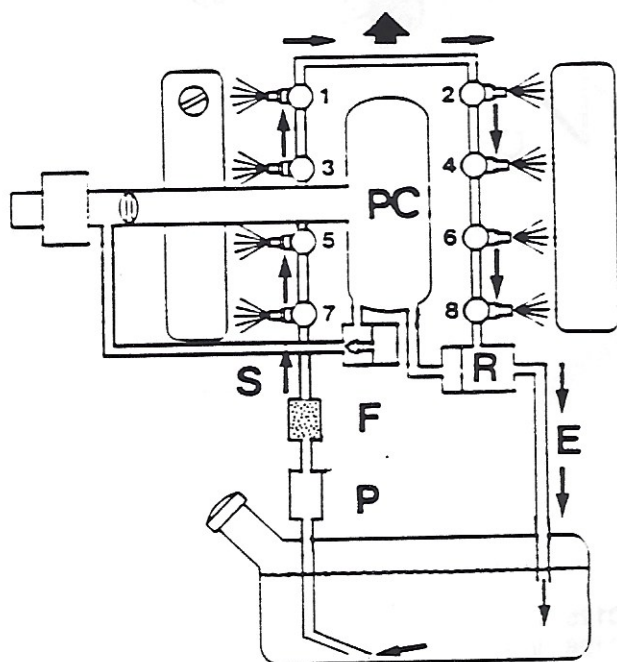

fig.28
An electric pump (P) draws fuel from the fuel tank (See Figure 28); the pump pick-up pipe is positioned in a small swirl pot in the base of the fuel tank to prevent air entering the fuel line when the fuel level is low in the tank. The pump passes the fuel along the fuel supply pipe (S), through a fine mesh (2 micron) in-line filter (F) to the injector rail and injectors (1-8). Fuel pressure is controlled by the regulator (R) and excess fuel returns to the fuel tank via the return pipe (E).